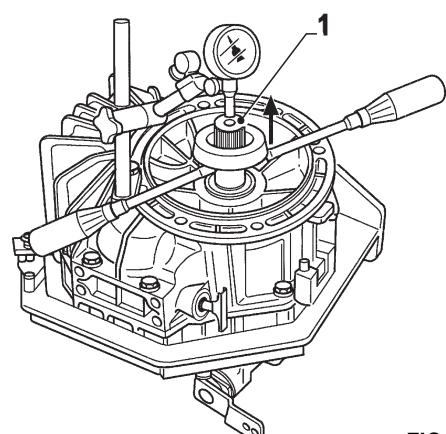

FIG. 5-4
- b) Fit clamping ring (tool p/n 618582) to the spline of the input shaft (item 1, Fig. 5-4).